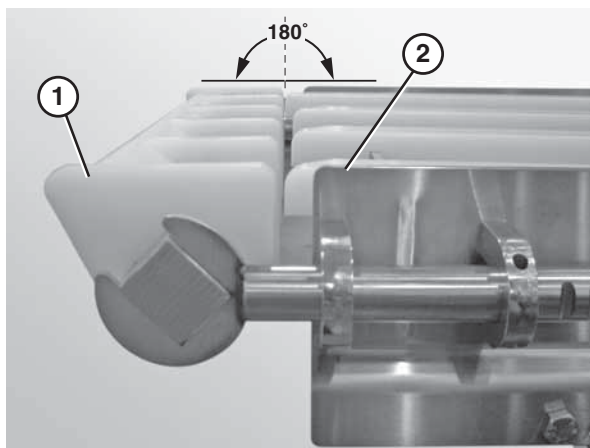

Figure 16
3. Ensure that the nose bar pucks (Figure 16, item 1) are in line with the conveyor frame (Figure 16, item 2).